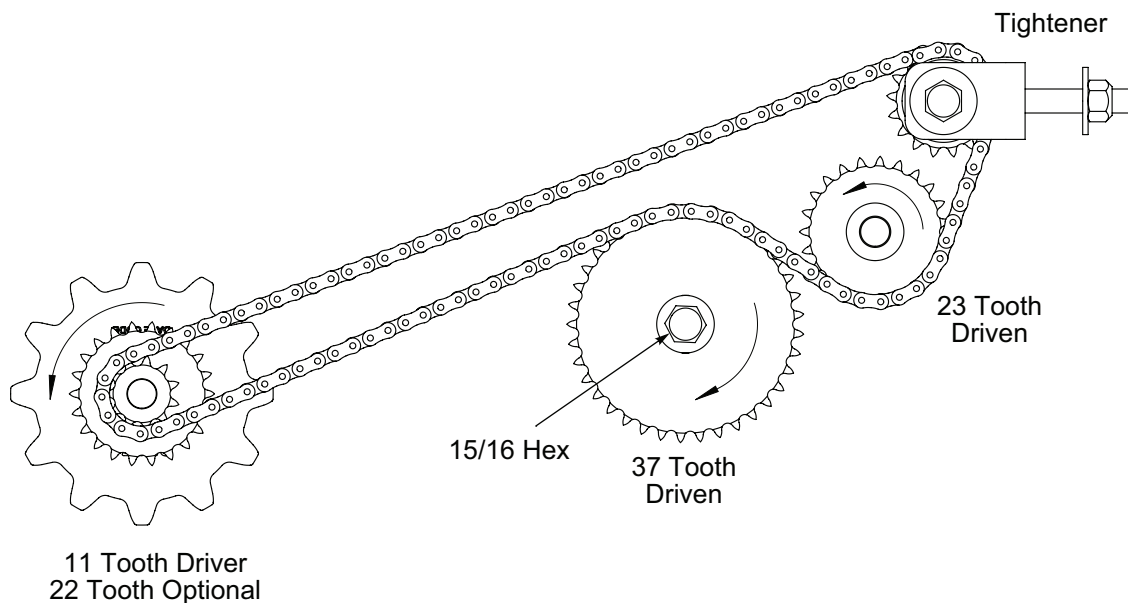

Figure 3-12: Transmission Drive
4. Turn 15/16 Hex on Transmission Shaft Clockwise(CW). **See Figure 3-12.**